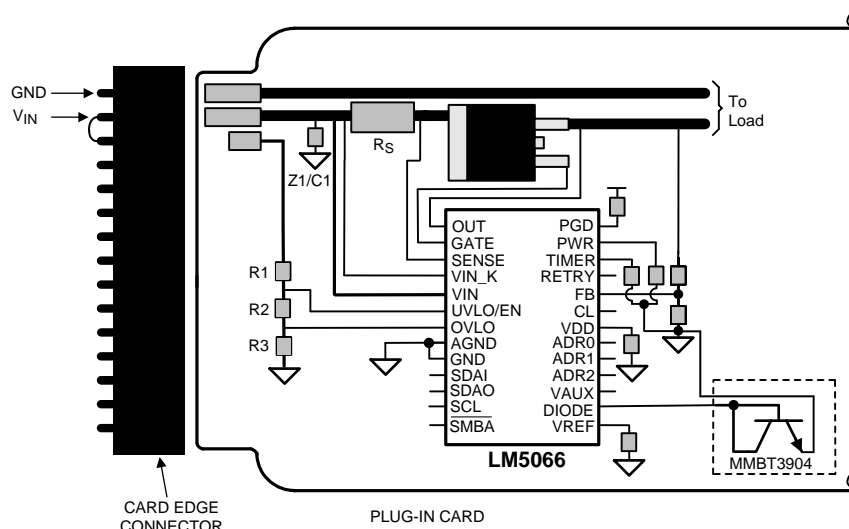

Figure 49. Recommended Board Connector Design
9. The board's edge connector can be designed such that the LM5066 detects through the UVLO/EN pin that the board is being removed, and responds by turning off the load before the supply voltage is disconnected. For example, in Figure 49, the voltage at the UVLO/EN pin goes to ground before V_{IN} is removed from the LM5066 as a result of the shorter edge connector pin. When the board is inserted into the edge connector, the system voltage is applied to the LM5066's VIN pin before the UVLO voltage is taken high, thereby allowing the LM5066 to turn on the output in a controlled fashion.